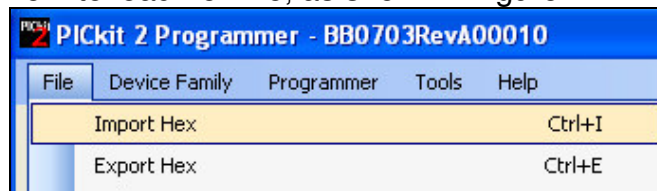

Figure 7 Import Hex file
3. Click "File/Import Hex" to load hex file, as shown in figure 7.